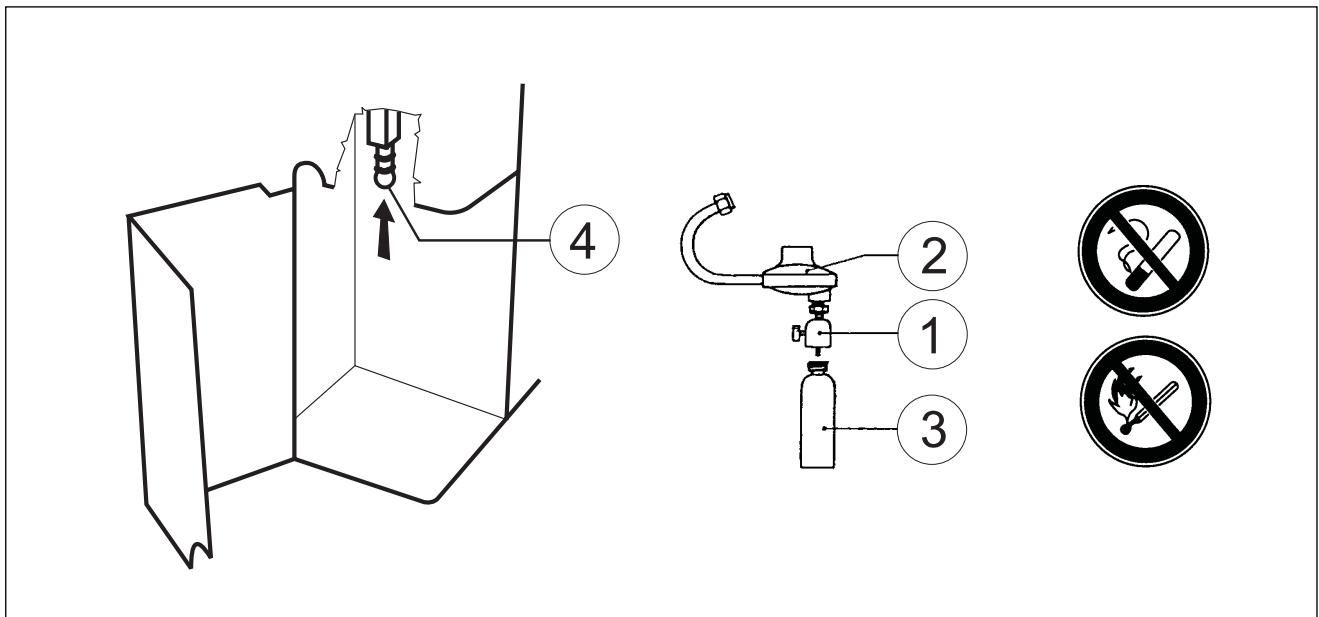

Figure 11.
10.4 Connection of gas supply (Fig.11)